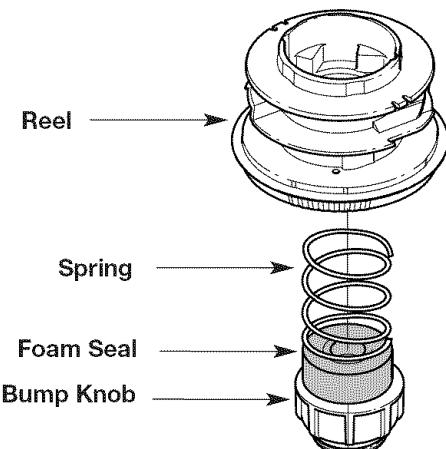

Fig. 21
2. Remove the Bump Knob, foam seal, spring, reel, and trimming line from the reel housing (Fig. 21).
5. Install the reel, spring, foam seal, and Bump Knob into the reel housing (Fig. 21).